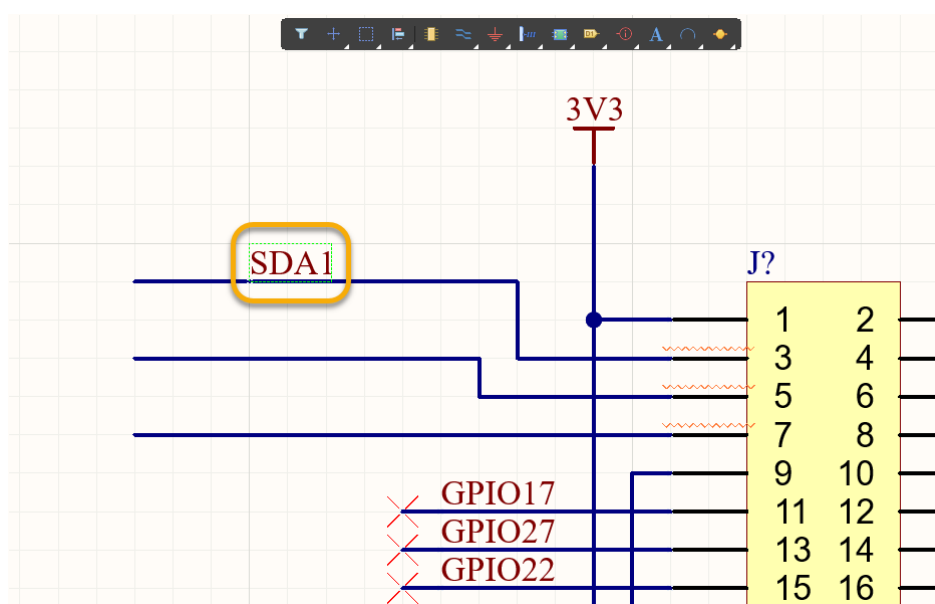

Figure 21. Placing the SDA1 Net Label onto Pin 3
29. Press **Enter** and place the Net Label on the wire on Pin 3 of the header using Figure 21 as reference.